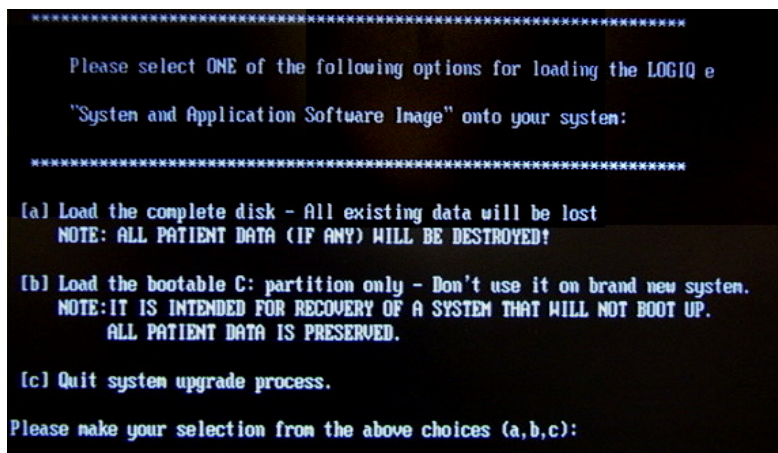

Figure 8-74 Selection for loading the system
- 7.) Select one of the options for loading the system. Select choice [a] to load the complete disk. Refer to Figure 8-74 on page 8-88 .